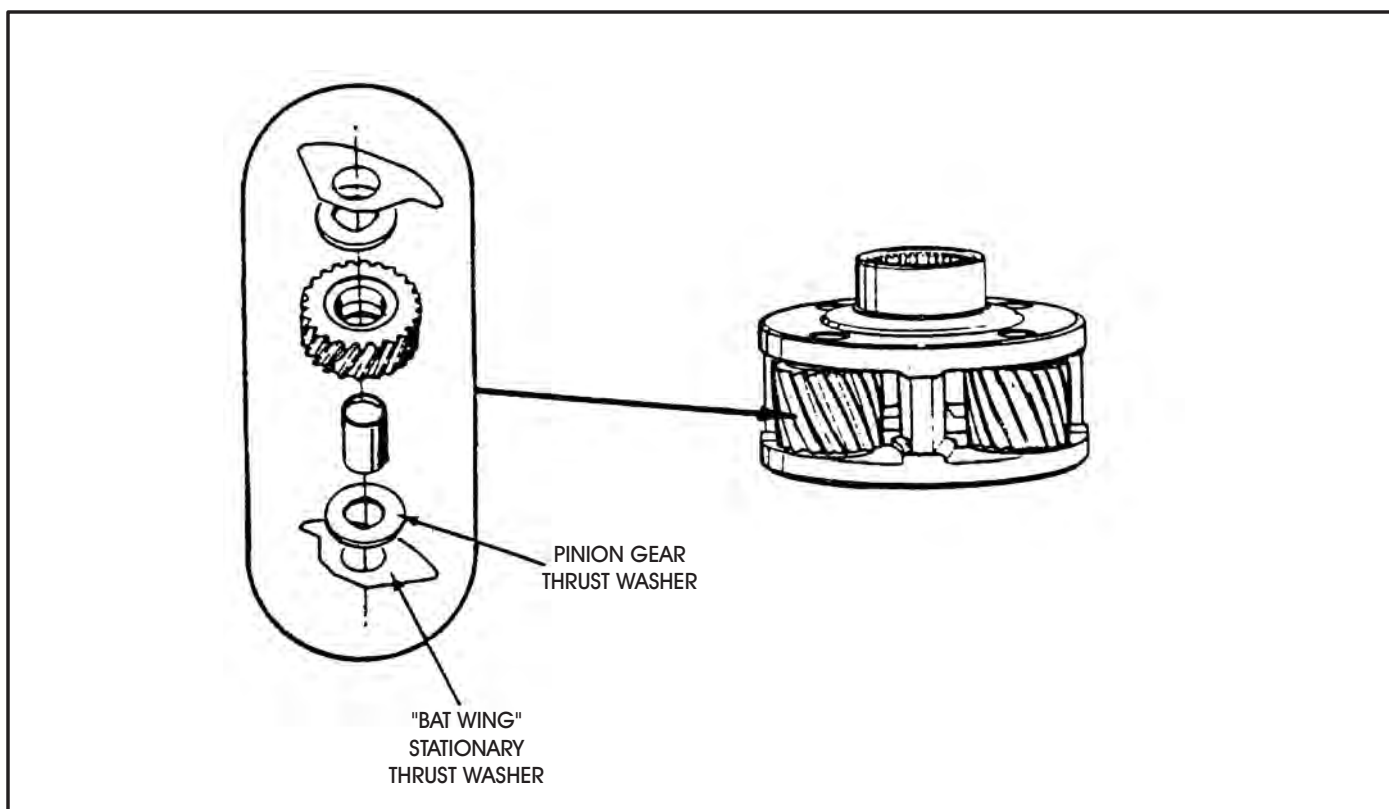

Figure 15
CHANGE: Beginning at the start of production for 1985 models, all THM 700-R4 transmissions were built with a new design Input Carrier that has added "Bat Wing" thrust washers on each side of the pinion gears, as shown in Figure 15.
- (1) INPUT CARRIER - Were built with stationary "Bat Wing" thrust washers in place of the previous bronze thrust washers, as shown in Figure 15.